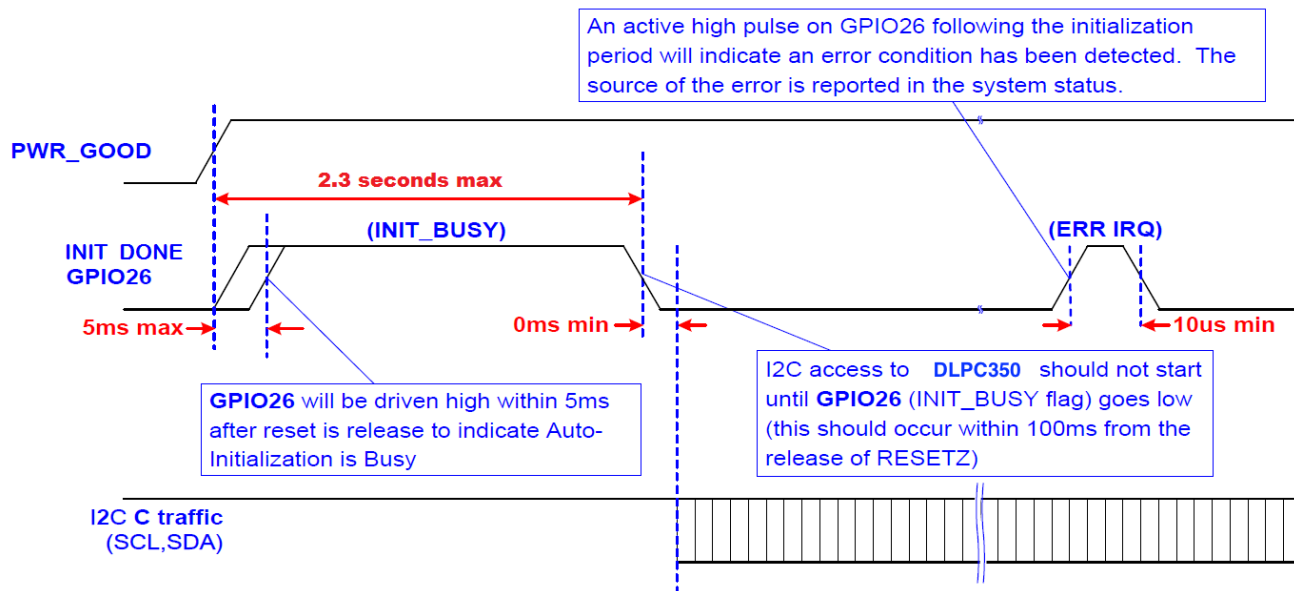

Figure 23. Internal Memory Test Diagram
- After the clocks are configured, an internal memory test is performed. See Figure 23 and note that GPIO26 is the INIT_DONE signal.